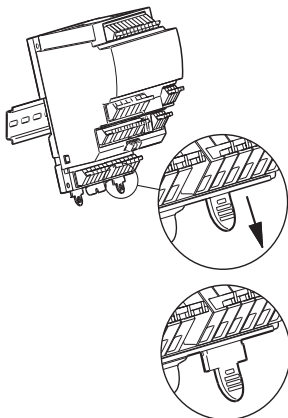

Fig. 9 Rail locking tabs
5. Pull the locking tabs free of the rail, see fig. 9. The module can now be lifted off the rail.